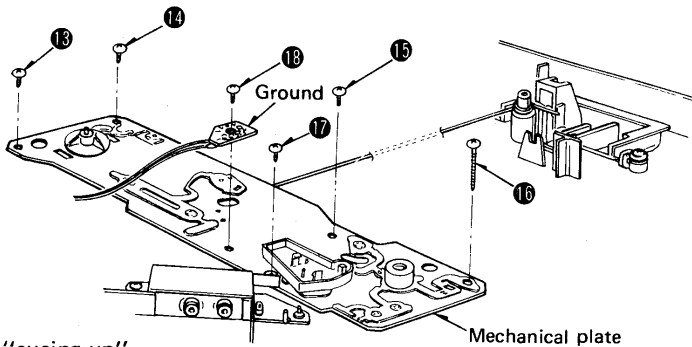

Fig. 6
● How to remove the mechanical plate (Fig. 6)
2. Remove the 5 setscrews [Fig. 6: ⑬ ~ ⑰] of the mechanical plate and output terminal shielding plate, and the setscrew ⑱ of the Ground terminal.